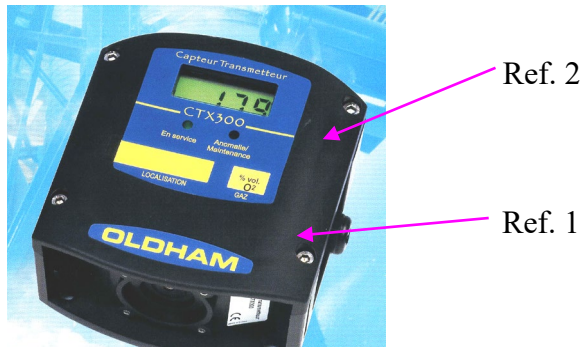

FIG. 1
- Remove the 4 screws (Ref. 1 in Fig. 1)
- Remove the cover (Ref. 2 in Fig. 1)
- Lift the cover (Ref. 1 in Fig. 1)